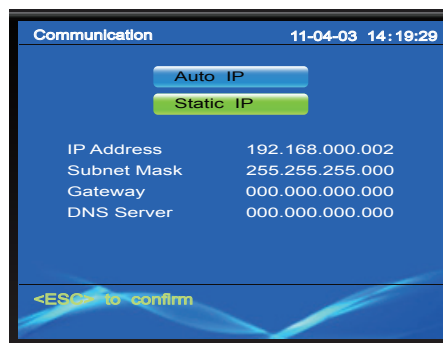

Figure 75 Static IP settings interface
Step 2: Enter IP Address: 192.168.000.002, Subnet Mask: 255.255.255.000, and leave the rest as shown in figure 75. Press "OK" after modifying. Display will Reboot.